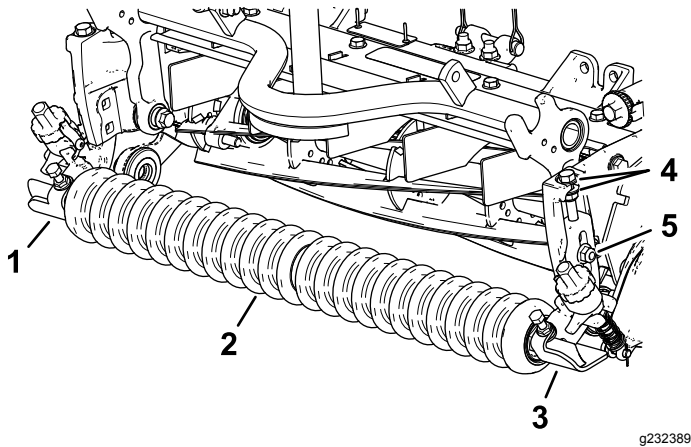

Figure 9
1. Loosely install the left and right HOC bracket assemblies and the front roller assembly to the cutting-unit side plates using the previously removed carriage bolts and locknuts (Figure 9).